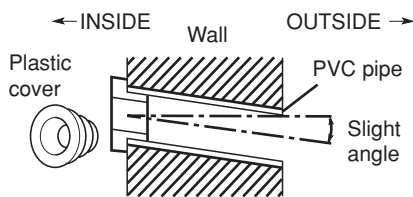

Fig. 3-49
- (6) Place the plastic cover over the end of the pipe (for indoor side only) and insert in the wall. (Fig. 3-49)